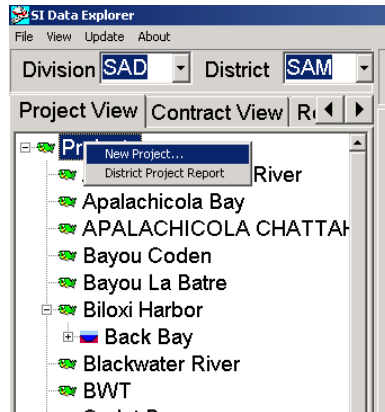

Figure 1.2. Creating a new project
1. Right-click on **Projects** in the *Project View*, and select **New Project** as shown in Figure 1.2.